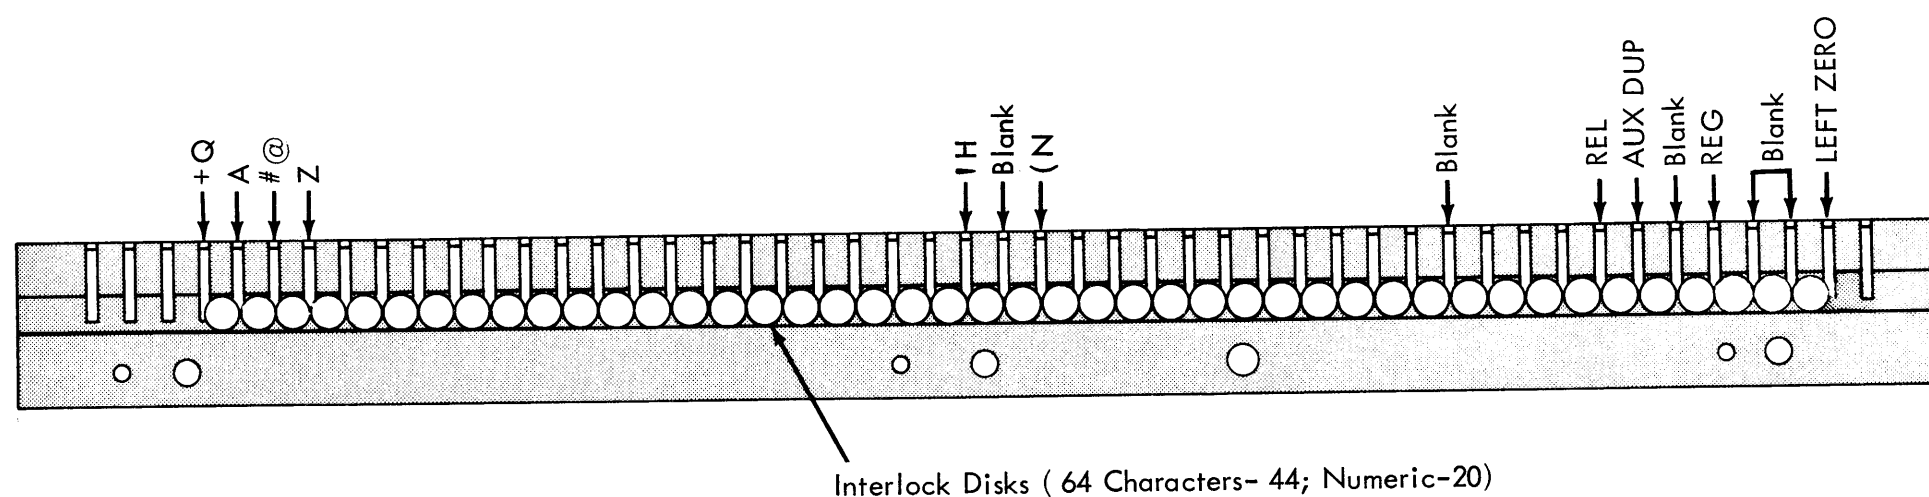

Figure 4-57. Keyboard Interlock Disks
14. Lift out the interlock disks adjacent to the latch assembly to be removed. Latch is free to come out of bottom. Note carefully the difference between the release key latch and other latch assemblies. The release key latch is cut away at the point where the latch would contact the interlock disks. The release key is not interlocked. Figure 4-57 shows the correct position of the 44 interlock disks for the alphabetic keyboard. A numeric keyboard has 20 interlock disks.